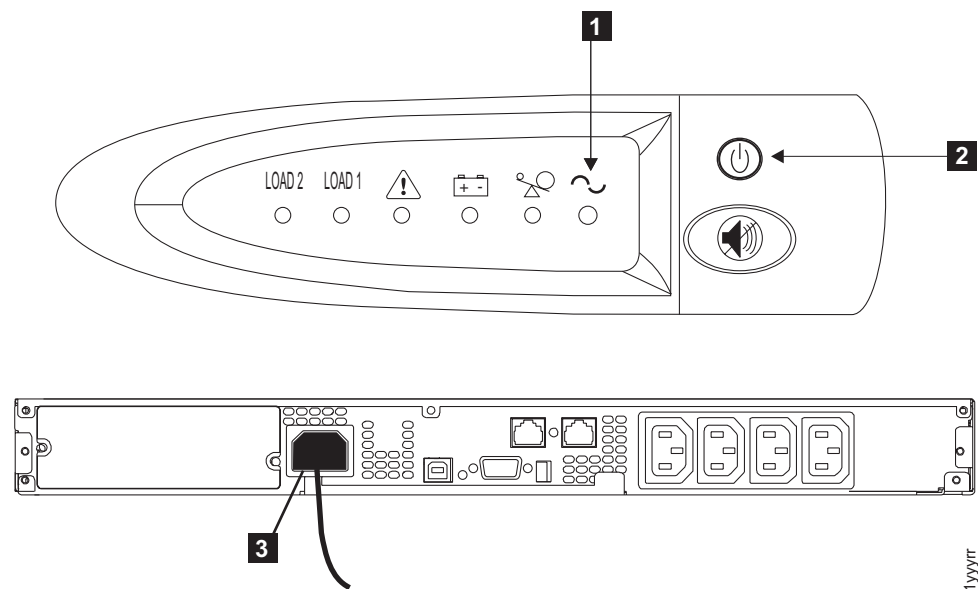

Figure 247. Front and back panels for the 2145 UPS-1U
2. Press and hold the on/off button **2** until the power light **1** is extinguished (approximately five seconds). On some versions of the 2145 UPS-1U, you need a pointed device, such as a screwdriver, to press the on/off button. The 2145 UPS-1U enters standby mode, with all indicators off. Figure 247 illustrates the front and rear views of the 2145 UPS-1U.